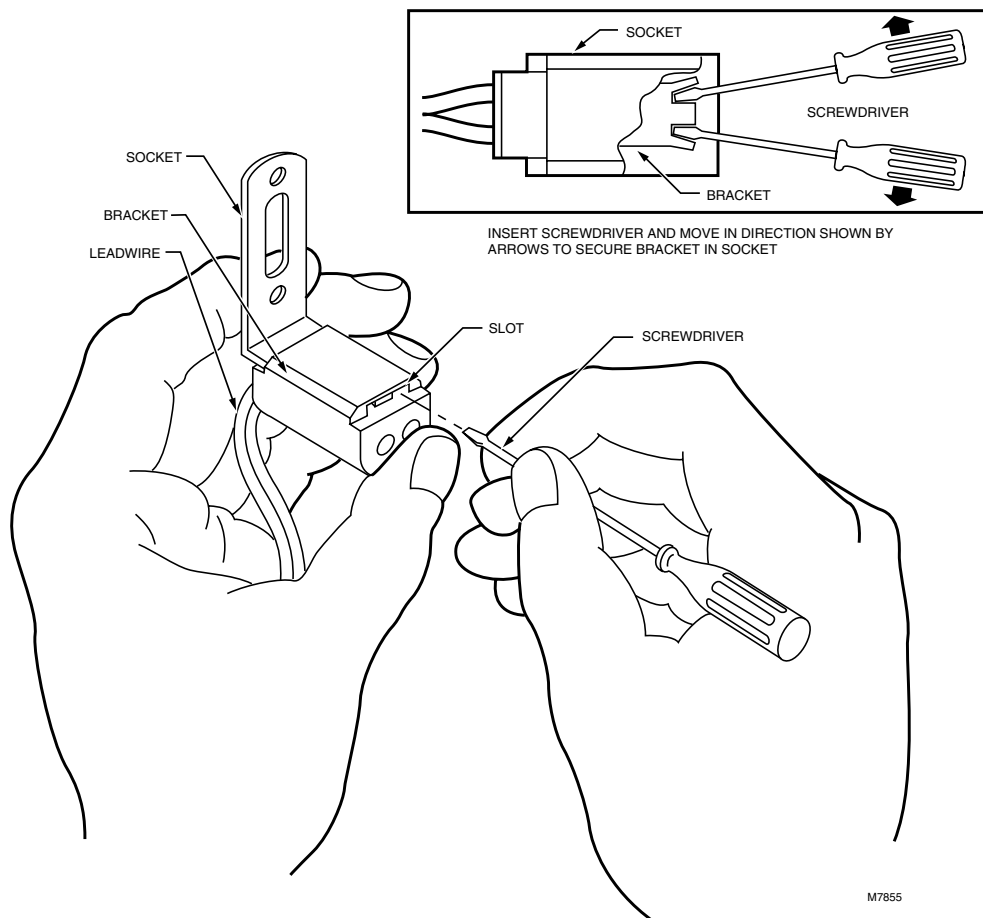

Fig. 4. Insert screwdriver to secure bracket in socket.
- ❶ Remove the cell from the socket.
- ❷ Insert the mounting bracket into the slot on the socket (Fig. 4) as far as it will go.
- ③ While holding the mounting bracket in the slot, insert the screwdriver in the other end of the slot (Fig. 4). Bend the screwdriver, first to the left and then to the right, to crimp the end of the mounting bracket and hold it in position.